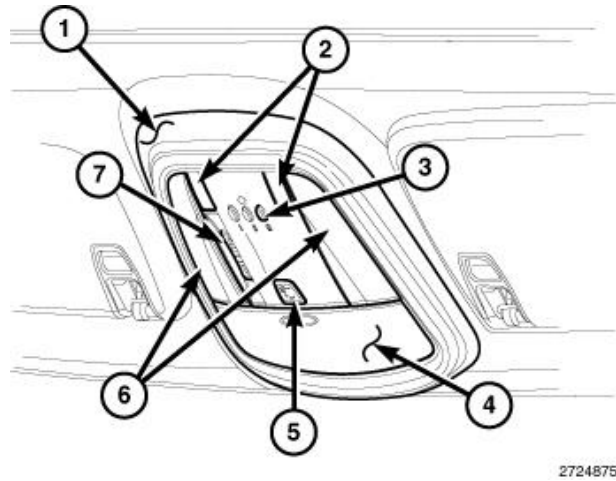

Figure 2 – Overhead Console
3. Pull downward on the sides of the overhead console housing (1) firmly and evenly to disengage the snap clips from the overhead console bracket (Figure 2).